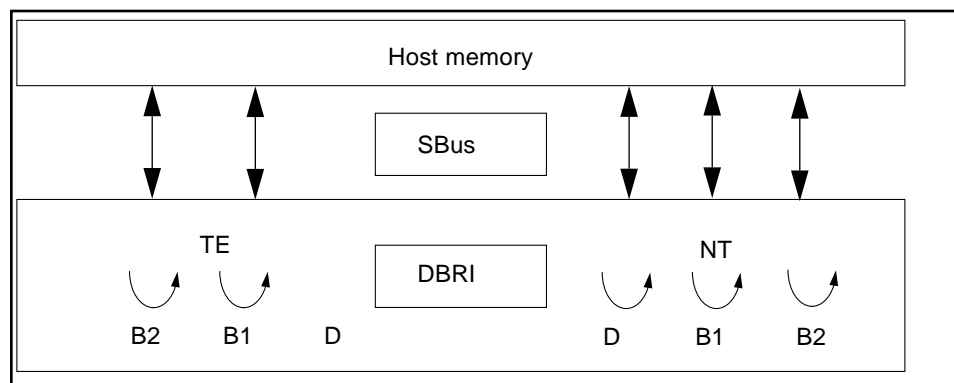

FIGURE 16-1 `isdnctest` Local Loopback Subtest
Local Loopback Test	The local loopback test checks the initial activation state of the Network Termination (NT) and Terminal Equipment (TE) interfaces to make sure they are deactivated. Then it activates each interface using the “force activation” capability of DBRI. Each interface is put into local loopback mode (See FIGURE 16-1). Data residing in host memory is written to each interface, which loops the data back to itself. The data is then read back into host memory and verified. Each channel, D, B1 and B2 is tested (with the exception of the TE D channel, which cannot be tested in local loopback mode). The local loopback test runs internal to the DBRI chip and does not require an NT-to-TE external loopback connector.